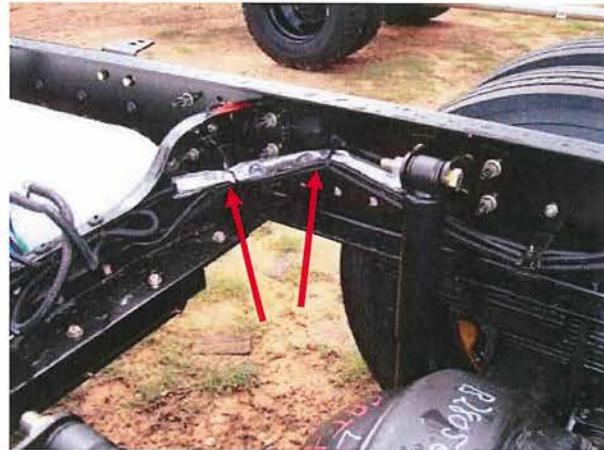

Figure 4
8. Cut wire ties at the rear where the fuel lines are tied to the wiring harness (Figure 4).